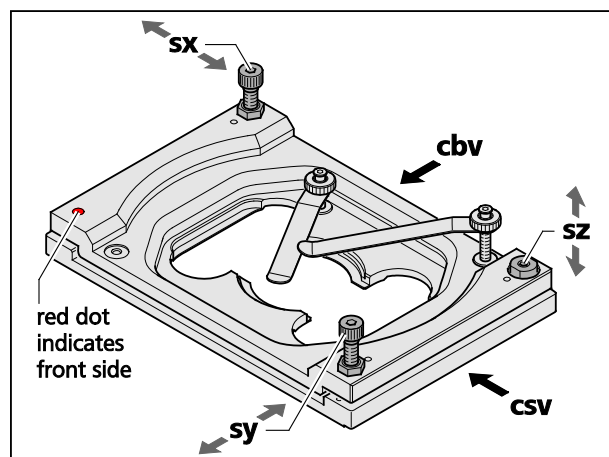

Fig. 11 Adjustable sample holder – schematic view
2. Draw fiber plug of X-Cite completely out from the X-Cite casing. Start acquisition. The image will be dark since fiber was pulled out. Put fiber back and slowly move in until you will see a coarsely adjusted image to have sufficiently reduced light levels you can work with (Fig. 12/**A**). (Note: with the fiber all in, the lamp is simply too bright leading to oversaturation of the camera). If the illumination is far from being centric, the sample is already strongly tilted and it is recommended to do a pre-adjustment. To this end adjust the edges of the clefts viewed from the right side (Fig. 11/**csv**) and back side (Fig. 11/**cbv**) to be parallel using screws **sy** and **sx**, respectively (Fig. 11). The cleft's width should be approximately 2 mm as preset by the factory, but can be adjusted with screw **sz** if needed.
8. Turn nosepiece back to free position. Than level stage by turning the screws of the sample holder (Fig. 11/sx & sy) until the more or less focused circle of the fiber overlaps with the ROI-circle (Fig. 12/H).